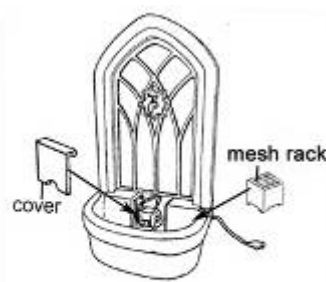

Fig.3
5. Insert the water supply tube at the bottom of top fountain into the pump outlet and then place the cover of pump housing to hide the pump. Finally place the mesh rack in the basin. Please make sure the water falls down from the spigot and right onto the mesh surface which will minimize water splashing (Fig 3).